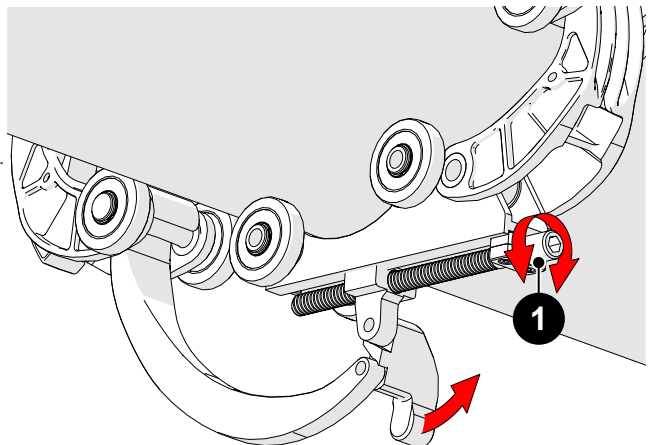

Fig. 92 - Adjust pressure of QuickLink Buckle
- Bring the buckle arm (Fig. 91-1) towards the catch link (Fig. 91-2). Hook the buckle's arm to the middle axle of the catch link. The buckle adjustment knob (Fig. 92-A) may have to be loosened to allow the arm to reach the catch link.